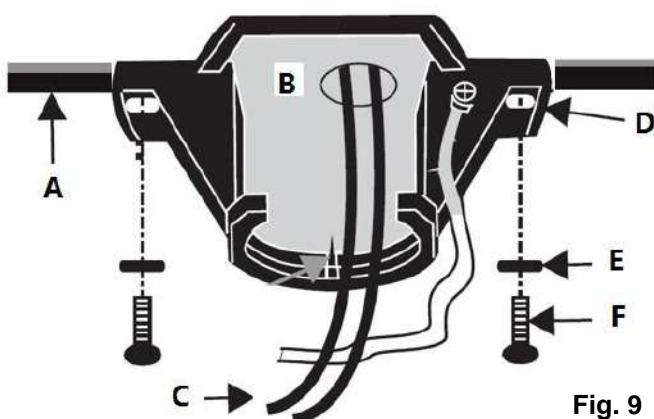

**Fig. 8**
4. Connect the quick connector to the lamp holder part (3). (Fig. 8)
5. Secure the lamp-holder part (3) to the light kit bracket by tightening the 3 screws (4). Do not over-tighten.
6. Install the globes (5) to the lamp holders. Do not exceed the maximum power rating.
7. Install the decorative drops (6) to the light kit.